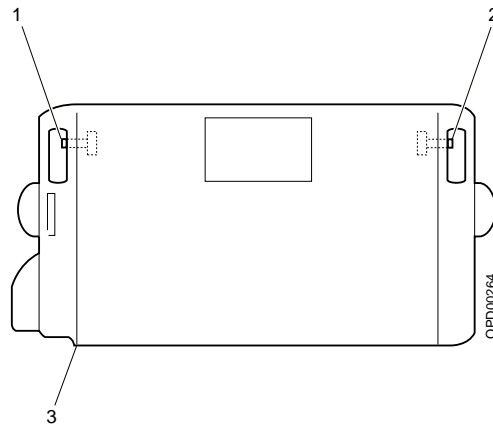

Fig. 4 Measuring points on the biopsy unit
2. Perform step 1. to 25. of a stereo examination on the stereo calibration phantom (Fig. 4, Page 5 - 4), see Performing stereo examination in Supplement to the Instructions for Use MAMMOMAT 3000 -Opdima®.
1. Measure the resistance between the ground connection of the stand and measuring points on the CCD camera according to Fig. 4. Use a sharp-pointed